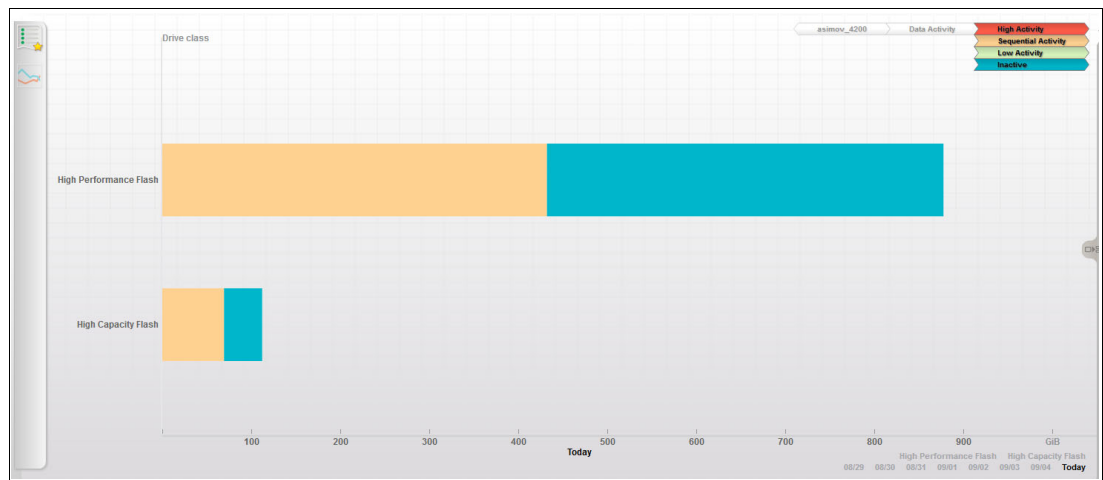

Figure 11-143 Volume performance graph (Easy Tier Data Activity)
4. Draw the graph. Figure 11-143 shows the Easy Tier Data Activity graph for All Tiers.